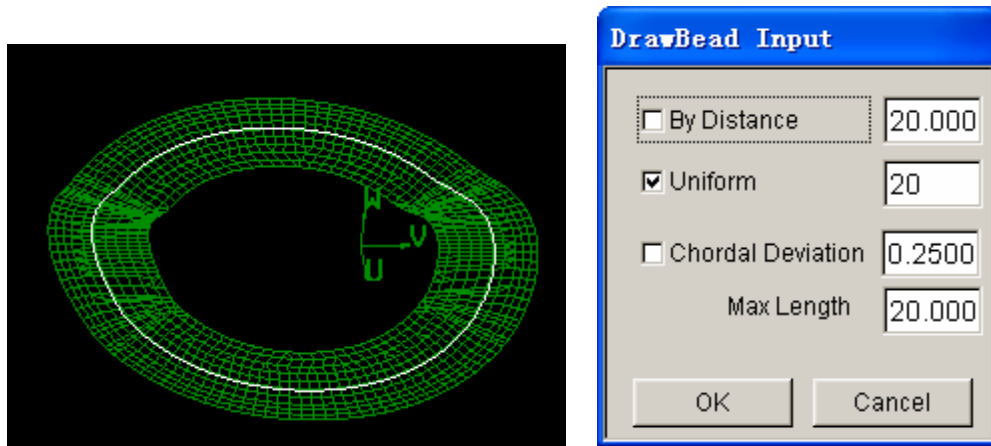

Figure 7.34 Drawbead parameters setting
16. Use your mouse cursor to pick the highlighted drawbead line illustrated in Figure 7.34. The DRAWBEAD INPUT dialog box is displayed.